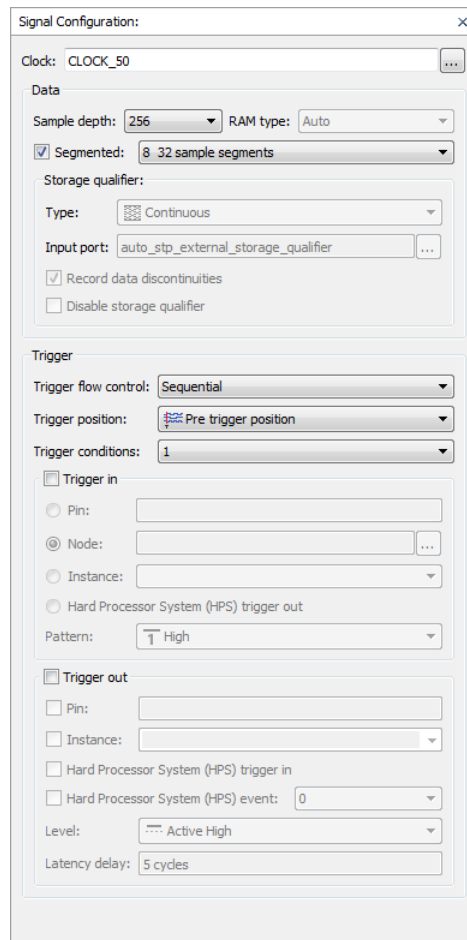

Figure 23. Select Segmented buffer acquisition mode with 8 32 sample segments.
- In the Signal Configuration pane of the SignalTap II window, in the Data section of the pane check Segmented. In the dropdown menu beside Segmented, select 8 32 sample segments. This will result in a pane that looks like Figure 23.